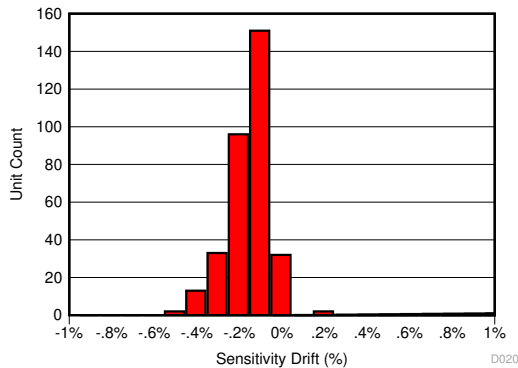
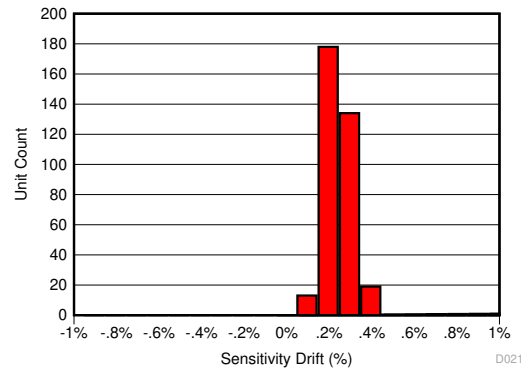

Figure 9-1. Sensitivity Error After 130°C, 85% RH HAST
Figure 9-2. Sensitivity Error Drift After AEC-Q100 High Temperature Operating Life Stress Test
to 3% of sensitivity drift due to aging at high operating temperatures. The TMCS1108 has greatly improved lifetime drift, as defined in the *Electrical Characteristics* table for total sensitivity error measured after the worst-case stress test during a three lot AEC-Q100 qualification. All other stress tests prescribed by an AEC-Q100 qualification caused lower than the specified sensitivity error, and were within the bounds specified within the *Electrical Characteristics* table. Figure 9-1 shows the total sensitivity error after the worst case stress test, a Highly Accelerated Stress Test (HAST) at 130°C and 85% relative humidity (RH), while Figure 9-2 and Figure 9-3 show the sensitivity and offset error drift after a 1000 hour, 125°C high temperature operating life stress test as specified by AEC-Q100. This test mimics typical device lifetime operation, and shows the likely device performance variation due to aging is vastly improved compared to typical magnetic sensors.